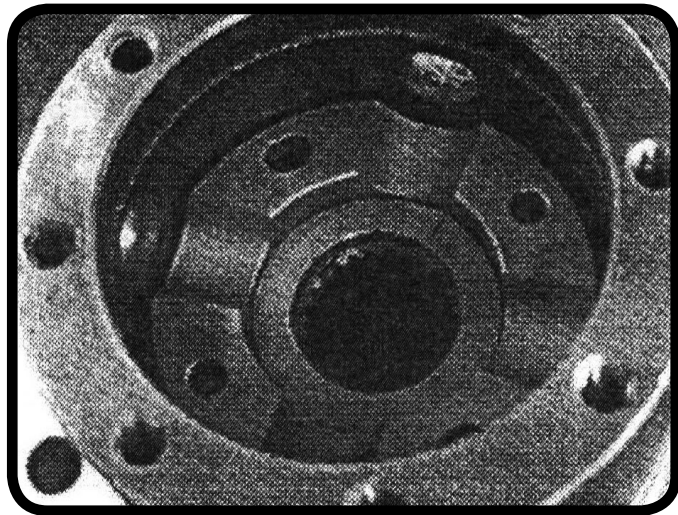

Figure 9
2. Place a driver onto the side gear in the case, with the teeth meshed, and place one of the spacers in the middle (**Figure 9**).